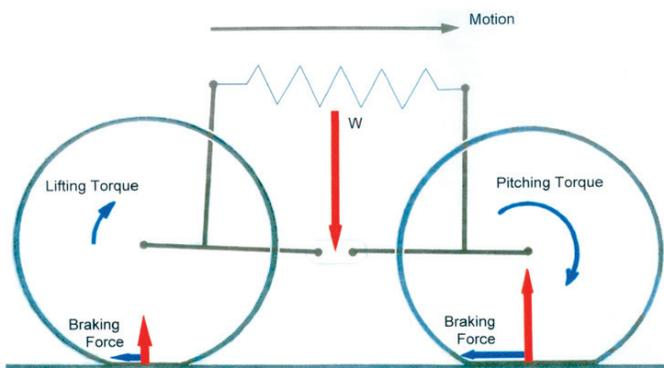

Fig. 2 Intermediate case: the front wheel carries more load than the back wheel and produces more braking.
1. The front wheel is loaded by a horizontal force (the braking force) originated by the reaction of the pavement on the tire pulling the coach backward, i.e. creating a braking action on the coach. Since the front wheel is in front of the pivot point, this horizontal force on the tire, through the drum, the shoes and the back plate applies a pitch torque on the pivoting arm at the spindle end making the arm rotate “downwards” in the direction of the coach motion (pitch) (see Fig. 2). This pitching of the pivoting arm is reacted by the frame at the front pin on one end of the arm and the tire to the ground on the other end. The net effect is a combination of a squashing of the tire and a lifting of the coach at the pivot point. How much is the coach lifted and how much is the tire squashed is an open question, but in any event the vertical load on the wheel is increased.